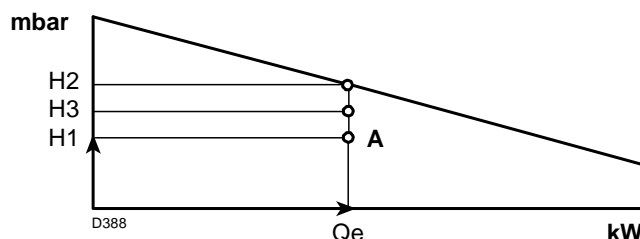

Fig. 3
- 4 Trace a vertical line from point A) (Fig. 3), and find the maximum pressure H2 of the firing rate.
If H3 is greater than H1)(Fig. 3), the burner can supply the required output.